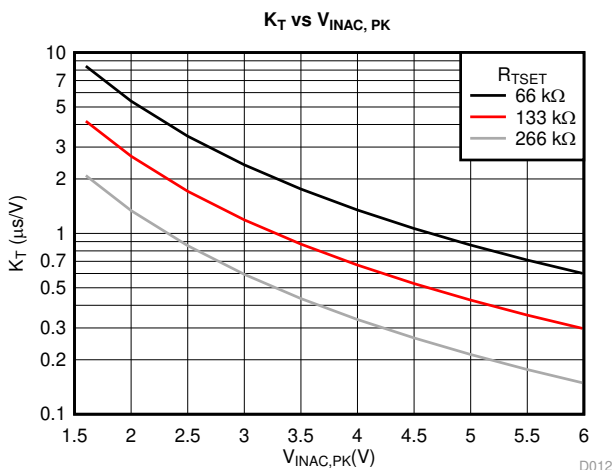

图 16.  $K_T$  vs Peak Voltage
Gate-drive on-time varies proportionately with the error-amplifier output voltage ( $V_{COMP}$ ) and inversely proportional to the squared value of the peak of the rectified input voltage sensed through VINAC pin as stated by equation (3). In equation (3) it is shown that the on-time is inversely proportional to the value of resistor  $R_{TSET}$  connected between pin TSET and pin AGND. In order to calculate on-time, Equation (4) can be used. Parameter  $K_T$  is function of the rectified peak input voltage sensed by pin VINAC as reported in graph of 图 16. In this graph 3 curves are reported for three different values of  $R_{TSET}$ . Two values of parameter  $K_T$  are reported in the electrical specs table for two values of VINAC:  $K_{TL}$  and  $K_{TH}$  corresponding at the VINAC = 1.6V and VINAC = 5V and  $R_{TSET} = 133k\Omega$ . Because voltage on VINAC is proportional to the line rectified voltage, for  $t_{ON}$  calculation purposes we refer to the peak value of this voltage that is obtained through an internal peak detect.  $K_T$  is inversely proportional to the squared value of VINAC peak value so it is the  $t_{ON}$  time realizing the so called voltage feed-forward compensation. The Voltage Feed-forward function modifies the MOSFET on time according to line voltage so, ideally output power delivered does not change if line voltage changes. When operating in single phase mode  $K_T$  is called  $K_{TS}$  and its value is doubled.
图 16 shows the values of  $K_T$  versus the peak voltage value on VINAC pin.